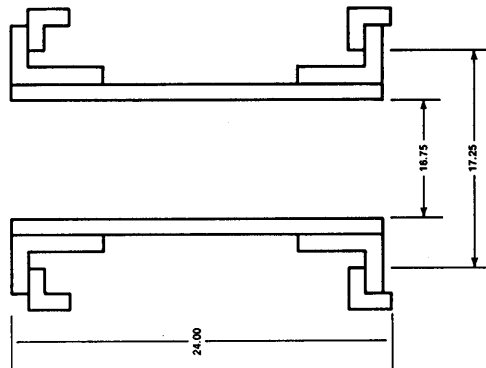

Figure 2-3. Typical Slide Mounting Inside Cabinet
2. Install slides on each side of the chassis as shown in Figure 2-3. Then install the slide mount brackets within the RETMA rack.